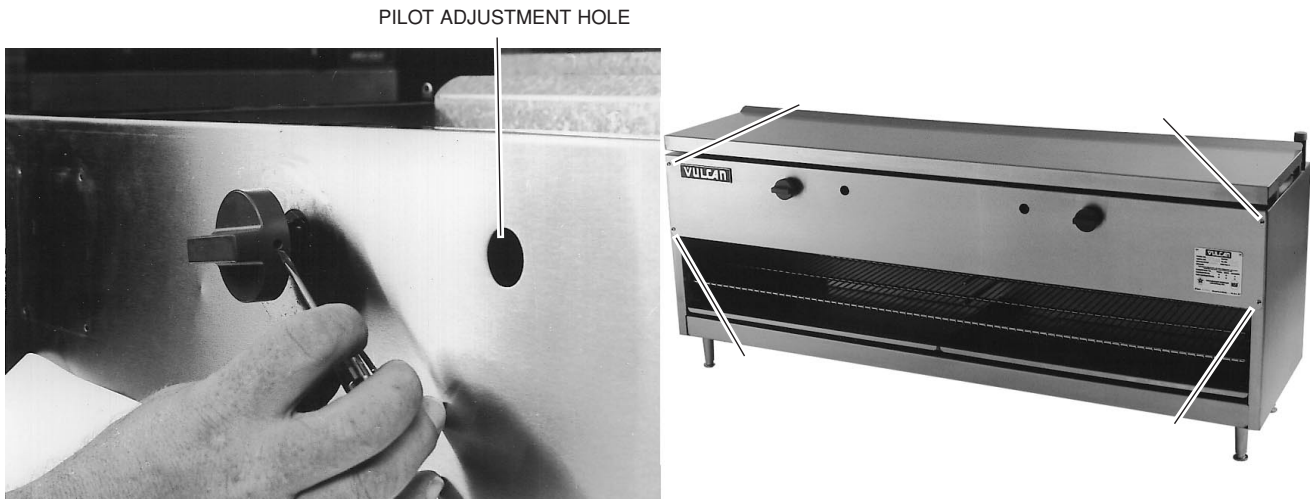

Fig. 4
1. Insert a small flat blade screwdriver through the adjustment hole. (See Fig. 4)
2. With a phillips head screwdriver remove (4) screws at each corner of the front panel and remove the panel. (Fig. 4)